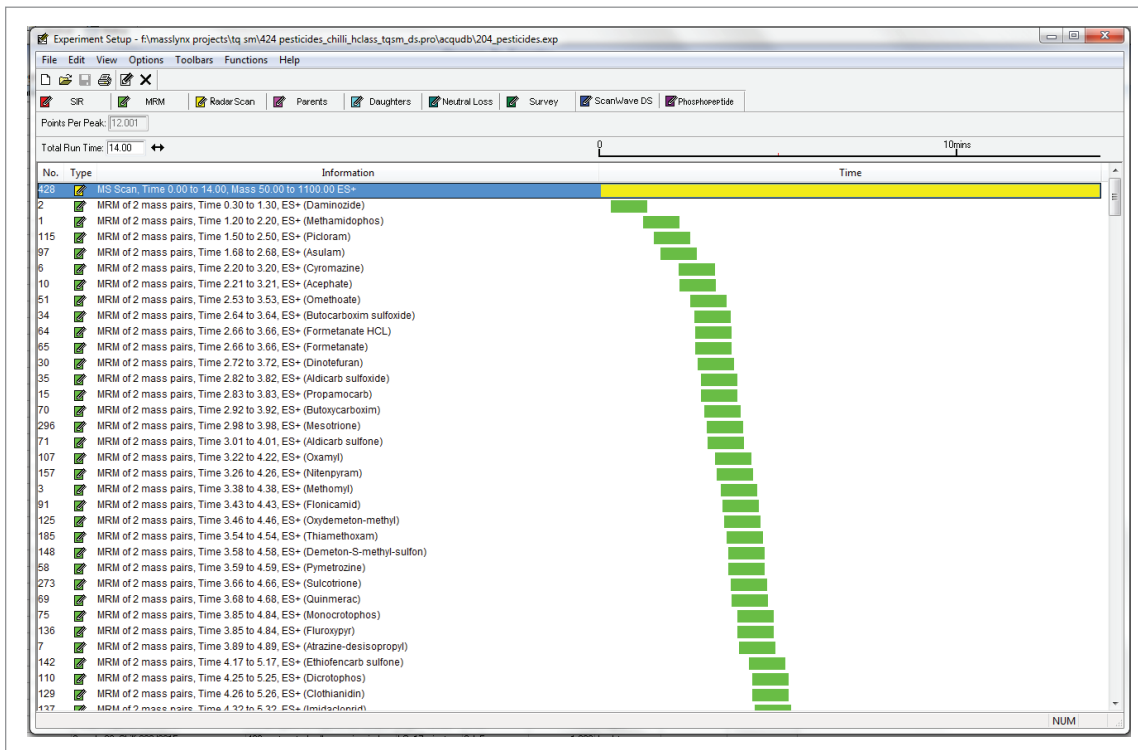

Figure 2. RADAR-enabled method showing multiple target MRMs for pesticides with a continuous background monitoring full scan function.
Waters' tandem quadrupole MS systems use innovative T-Wave™ Collision Cell technology to switch between MRM (MS/MS) and full scan (MS); this acquisition mode is called RADAR.™ Setting up RADAR experiments is a simple process, where the analyst can add an MS scan function to any MRM method and use the Automatic Dwell Time function to optimize the MRM acquisition parameters, as shown in Figure 2.